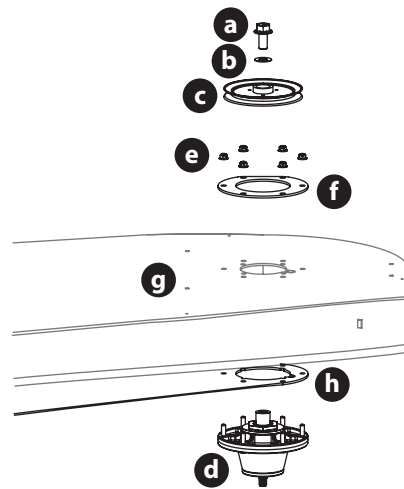
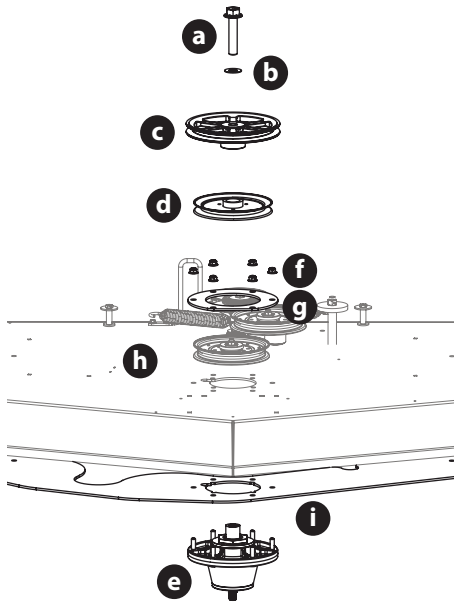

Figure 65
Figure 66
6. Remove the hex flange bolts (a) and flat washers (b) securing the left and right spindle pulleys (c) to the spindle assembly (d) (Figure 65).
7. Remove the 6 flange lock nuts (e) securing the left and right spindle assemblies (d) and the support plates (f) to the deck shell (g) (Figure 65).
NOTE: The deck support plate (h) does not need to be removed unless all three spindles are being replaced (Figure 65).
8. Remove the hex flange bolt (a) and flat washer (b) securing the drive pulley (c) and center spindle pulley (d) to the spindle assembly (e) (Figure 66).
9. Remove the 6 flange lock nuts (f) securing the center spindle pulley (d), spindle assembly (e) and the support plates (g) to the deck shell (h) (Figure 66).
NOTE: The deck support plate (i) does not need to be removed unless all three spindles are being replaced (Figure 66).
10. Reverse the process to install the spindle assembly. When installing the new spindle assembly be sure to install the hardware exactly (Figure 65 on page 34 and Figure 66). Torque the hex flange bolts to 250 ft-lbs (339 N-m) and the flange lock nuts to 21-32 ft-lbs (28-43 N-m).